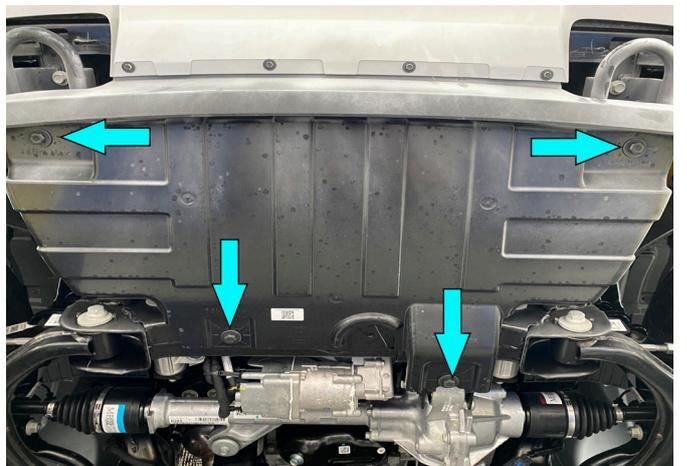

Fig.18
18. Unscrew OE bolts and remove OE skid plate (fig.18).